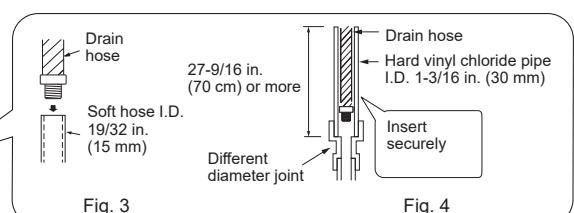

Fig. 3
- 6) Process the end of ground wire (Fig. 3). Connect it to the ground terminal of electrical parts box.
- 7) Process the end of indoor/outdoor unit connecting wire (A) (Fig. 3). Attach it to the terminal block. Be careful not to make mis-wiring. Attach the wire to the terminal block securely so that its core cannot be seen, and no external force affects the connecting section of the terminal block.
- Put the drain cap into the section to which the drain hose is to be attached at the rear of the indoor unit. (Fig. 3)
- If the drain hose provided with the indoor unit is too short, connect it with a field-supplied drain hose (I). (Fig. 3)
- 2) Remove all burrs from the cut section of the pipe, ensuring that precautions are taken to avoid getting metal shavings into the piping. (Fig. 3)